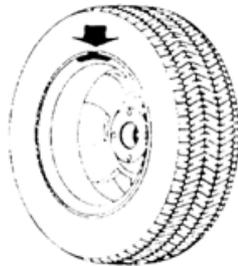

Figure 10-1
10.2.3 Slowly rotating wheel, when inside counterweight position indicator light all on, and show “OK”, clip correspond counterweight on 12 o'clock position inside of rim, Figure 10-1;
10.5.3 Slowly rotating wheel, when inside counterweight position indicator light all on, and show "OK", clip the correspond counterweights on 12 o'clock position inside of rim refer to Figure 10-1.